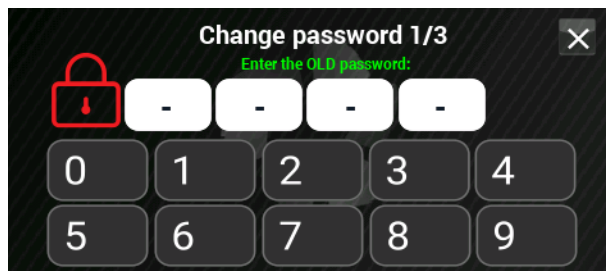

Figure 16-16: entry of the old password.
- In the first screen the user is asked to enter the old password (**fig.16-16**).